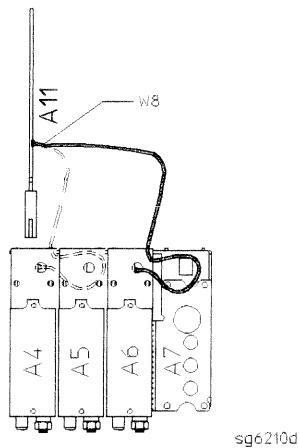

Figure 2-20. Connections for Substituting the R Sampler (A4)
- a. Move cable W8 to the B sampler (A6), as shown in Figure 2-20.